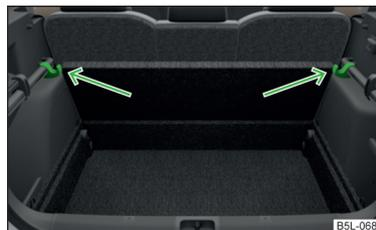

Fig. 106 Secured loading floor in the raised position
- › Support the variable loading floor on the hooks folded downwards » Fig. 106.